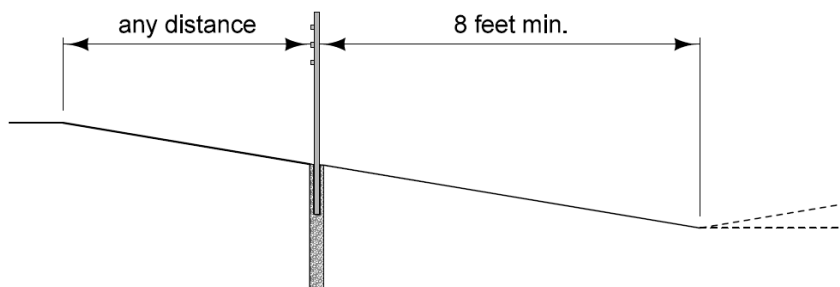

Figure 1: High tension cable guardrail placed on slopes 6:1 or flatter.
- On slopes 6:1 or flatter, the high tension cable guardrail can be located any distance from the foreslope breakover, see Figure 1. However, it cannot be placed any closer than 8 feet from the breakover at the bottom of a ditch, see Figure 1.
3/31/2016	Revised Modified Figure 1 and first two bullets on page 1. According to NCHRP Report 711, high tension cable can be placed at any distance on 6:1 or flatter slopes. Eliminated third bullet on page 1. All approved systems are TL-4, so no Estimate Reference Note is needed. Added information and Figure 5 to high tension cable to W-beam connection discussion.